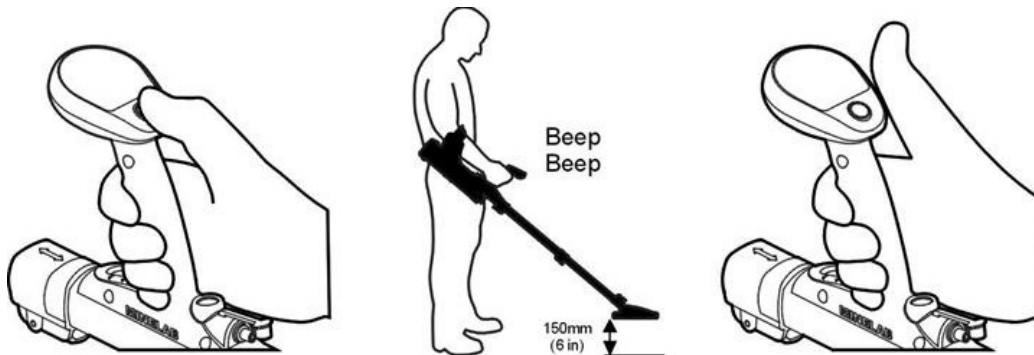

Figure 6: Ground Balance
*Where the Ground Balance Test is conducted using local soil, Figure 6 illustrates the procedure to be followed*